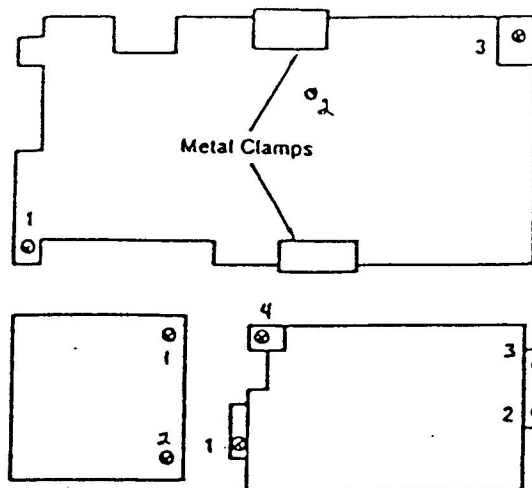

Figure 2
- 3) Remove and save screws securing power supply board. Disconnect the cable going to the main board and set power supply board aside. See FIG 2.
- 4) Remove screws (1,2, and 3 only) securing main shielded circuit board (motherboard) and screws securing keyboard and set aside. See FIG 2. The main board and keyboard should remain in place.